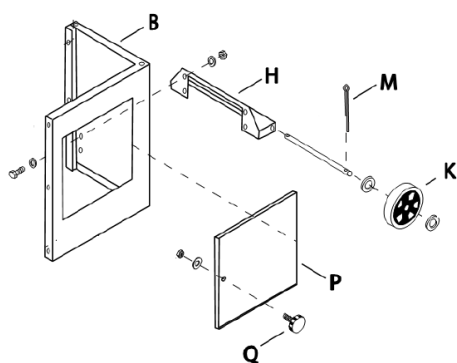

Fig 3
Install the wheel base (H) with four hex cap screws, washers and nuts (Fig 3)